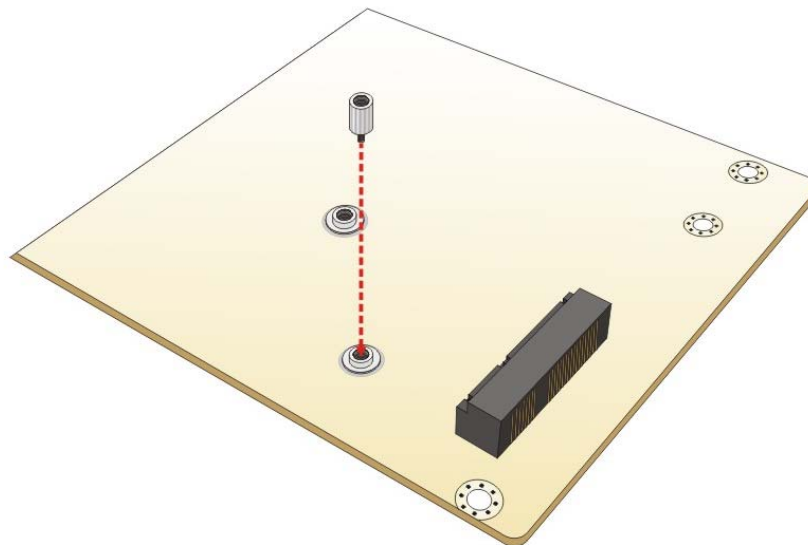

Figure 4-9: Installing the Standoff
Step 4: Install the standoff to the screw hole for the half-size PCIe Mini card. Install the previously removed standoff to the screw hole for the half-size PCIe Mini card (Figure 4-9).